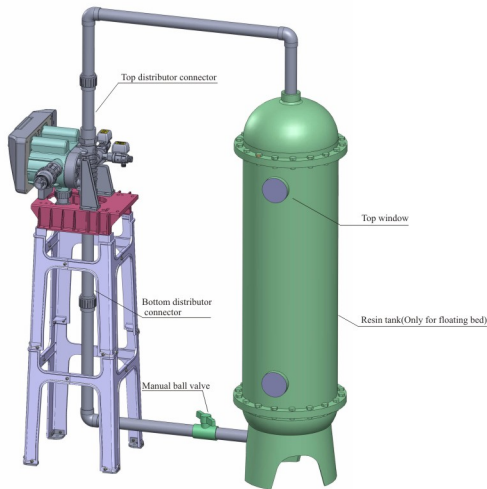

Figure 1-3
② Installing resin tank and top/bottom distributor
- Top and Bottom distributor pipeline connection is like Figure 1-3, Install a manual ball valve between bottom distributor and tank.